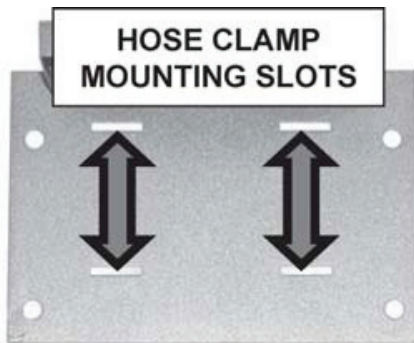

Fig. 15: Hose Clamp Slots
2. Lace metal strapping or clamps, (NOT PROVIDED) through the  $\frac{3}{4}$ " slots on the cover and fasten securely to pipe as shown in Fig. 15 & 16. Do not over-tighten clamps.